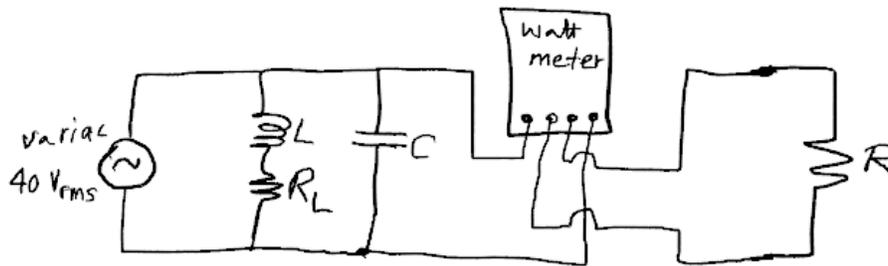

Figure 2
- g) Next, construct the circuit in the configuration shown in Fig. 2 to take the measurements for the branch with the resistor only. Follow the steps (d), (e), and (f) to accomplish your measurements.